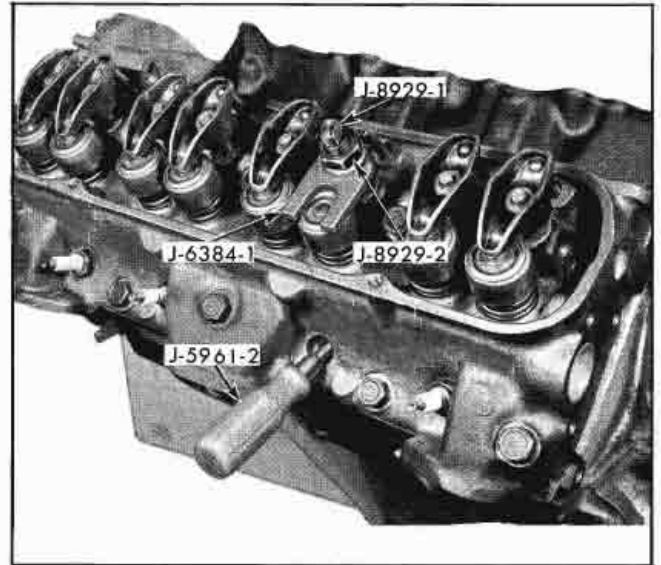

Fig. 6-22 Valve Spring Compressed
3. After removing rocker arm, thread valve spring compressor stud J-8929-1 on rocker arm stud and compress valve spring using compressor J-6384-1 and nut J-8929-2 while holding valve up with valve holder J-5961-2 (Fig. 6-22). Remove valve spring retainer cup locks and then remove valve spring compressor, valve spring retainer cup shield and valve stem seal.